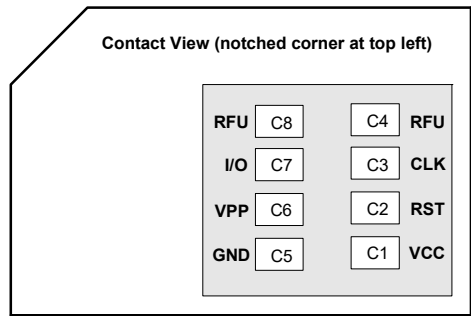

Figure 2-5: SIM Card Contacts (Contact View)
a. See Figure 2-5 on page 33 for SIM card contacts.